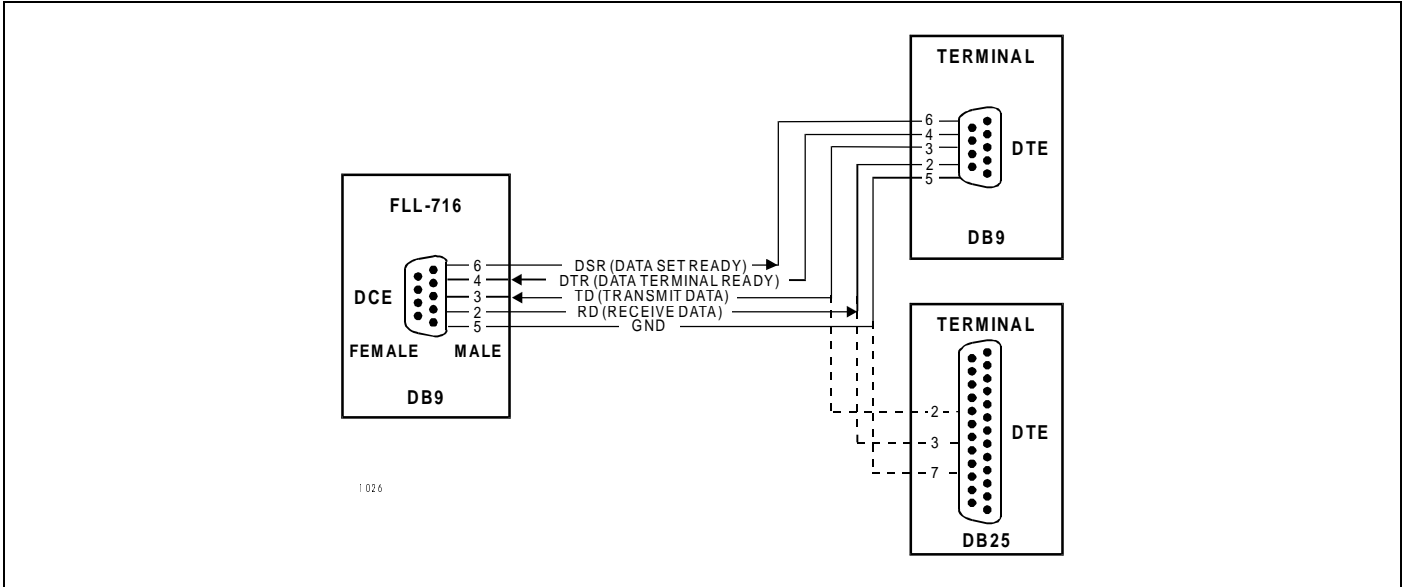

Figure 4. FLL-716 DB-9 Pin Outs. A standard RS-232 (DB-9) connector on the front panel provides access to the menu interface feature via a dumb terminal.
8.01 The terminal management function of the PG-Flex enables a technician to manage the entire PG-Flex system through an ASCII terminal (or modem) connected to the maintenance port at either the CO or the RT. The pin-outs for the standard RS-232 (DB-9) maintenance port connector are shown in Figure 4. With the management function, the technician can view system status, set configuration parameters, conduct testing, monitor performance, and obtain an inventory report.